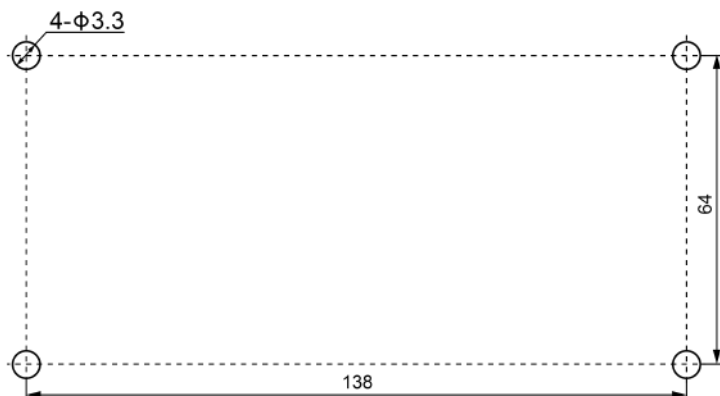

Fig. 3.13 Installation Holes of the Electric Box Rear Cover
- 2) In case that the centralized controller is installed inside the control cabinet, dig 4 installation holes on the surface of the control cabinet according to fig.3.13.
- (4) In step ①, pull out the power core and communication cord, and then lead them separately from the wire orifice of the electric box rear cover. Never lead the cords through a same orifice.
- (5) In step ①, pull out the power core and communication cord, and then lead them separately from the wire orifice of the electric box rear cover. Never lead the cords through a same orifice.
- (6) In step ⑥ pull out the wire connecting the touch screen and controller's rear cover. Put the touch screen on a safe place.
- (7) In step ⑦, connect the communication cords to G1, G2 terminals, and connect the neutral wire and live wire to the N, L terminal; connect the ground wire to position  on the electric box rear cover. Secure it with screw M4×12.
- (8) In step ⑧, locate the controller's rear cover onto the electric box rear cover with screw ST4.2×9.5 MC.
- (9) In step ⑨, connect the wire between touch screen and controller's rear cover.